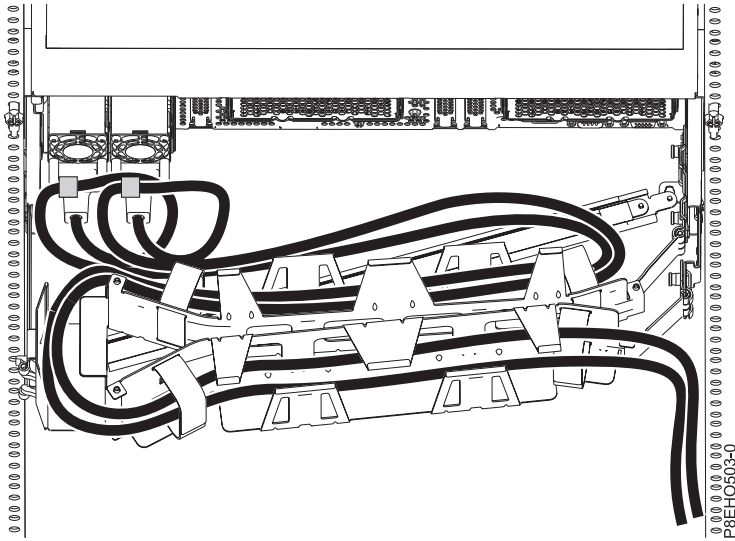
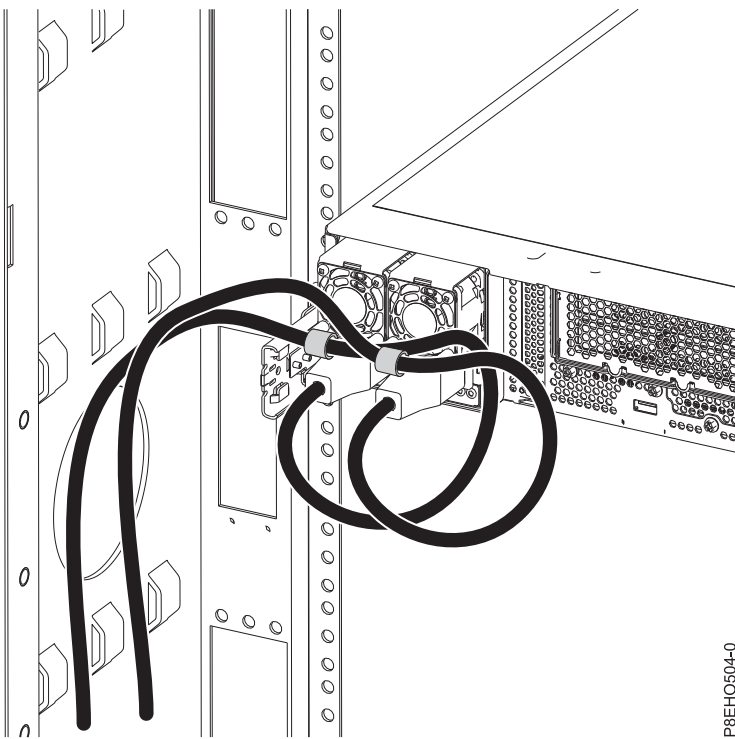

Figure 126. Power cord loop with cable management arm routing. The power cord loops counter-clockwise to the right.
Figure 127. Power cord loop with sidewall routing. The power cord loops counter-clockwise to the left.
3. Label and disconnect the power cords from the power supply handle. Unfasten the hook and loop fastener that ties the power cord to the power supply handle. Note how the power is looped; you will need to make that same loop when you reattach the power cords. There are two types of loops, detailed in Figure 126 on page 128 and Figure 127 on page 128.